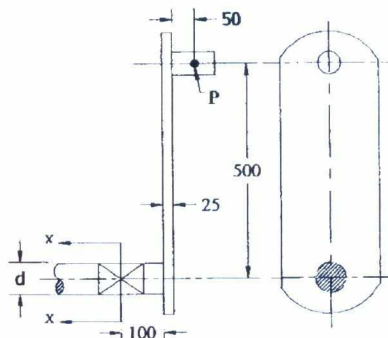

Fig.Q2(b)
b. An overhang crank with pin and shaft is as shown in Fig.Q2(b). A tangential load of 15 kN acts on the crank Pin. Determine the diameter at section 'XX' using maximum shear stress theory. The crank is made of C60 carbon steel. Take factor of safety as 2. All dimensions are in mm. (05 Marks)